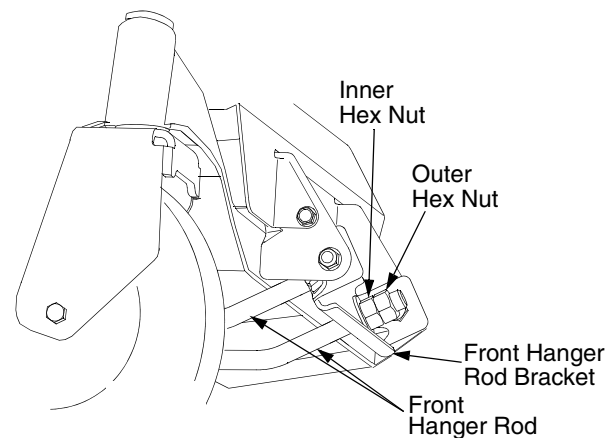

Figure 34
- From the front of the tractor, loosen the outer hex nuts on the deck front hanger rod and turn them away from the inner nuts. See Figure 34.
- If the front of the deck was too low, turn the inner hex nuts clockwise against the hanger bracket to shorten the front hanger rod and raise the front of the deck. See Figure 34.